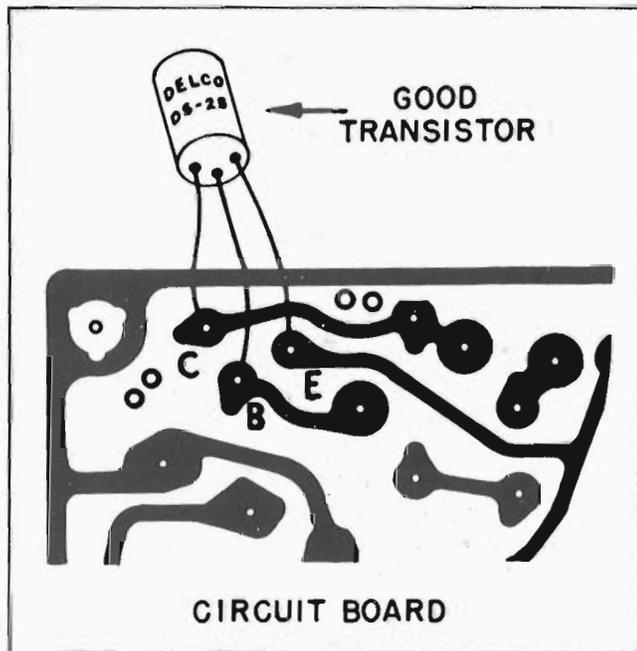

Figure 5
1. Connect a good transistor of the same or equivalent type across the one in the circuit, make sure that all three leads are making a good connection at the proper solder points on the circuit board - Base lead to point B; Emitter lead to point E; Collector lead to point C. See Figure 5.